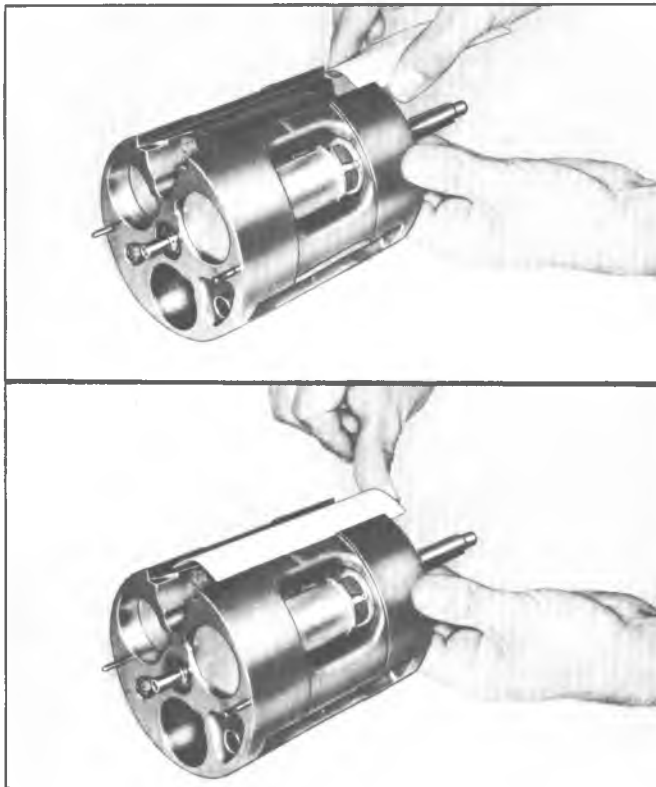

Fig. 25--Installing Suction Crossover Cover
12. Replace the suction crossover cover as shown in Figure 25. Compress the cover (as shown) to start it into the slot, and then press it in until flush on both ends.